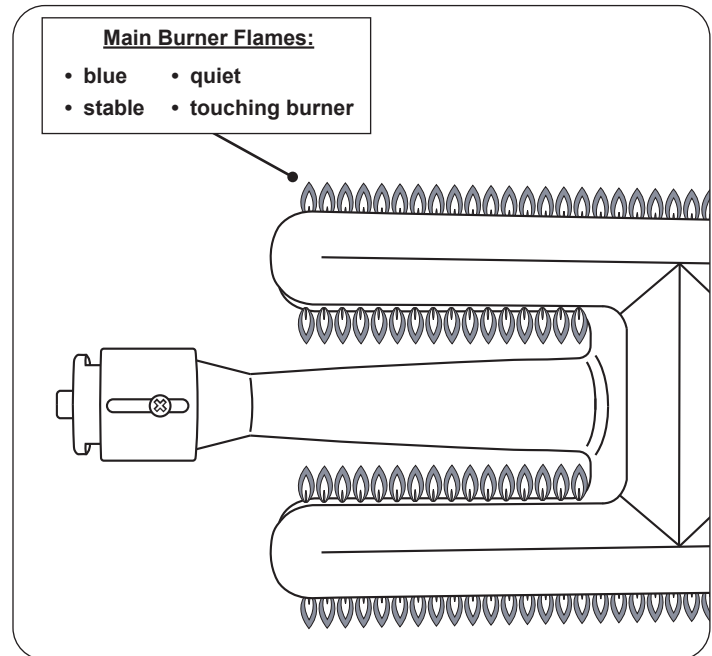

Fig. 48-1 Proper flame appearance
**Note:** To verify proper settings, the flames of the burners should be visually checked for proper flame appearance and behavior. Light the grill with the burner(s) on HI setting. Allow at least 2 minutes to burn. See below and Fig. 48-1. The flames should: